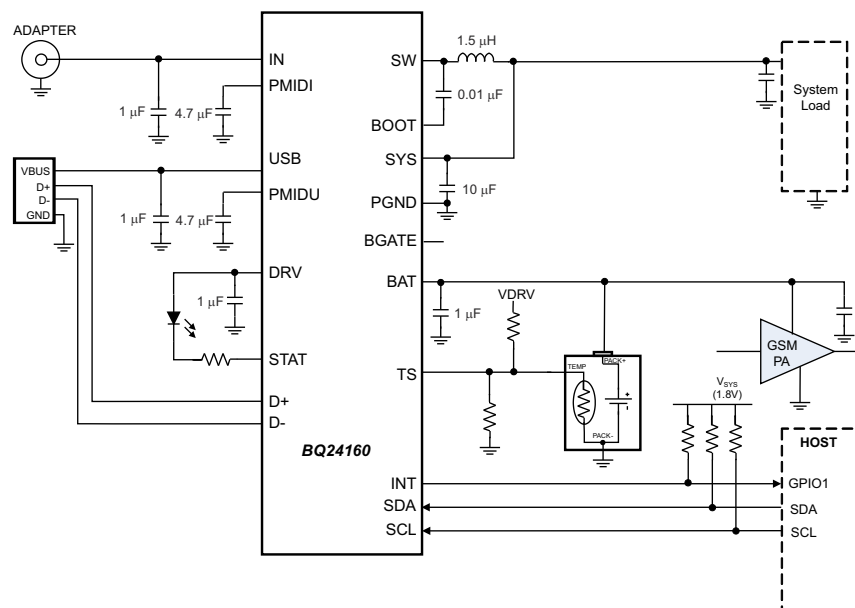
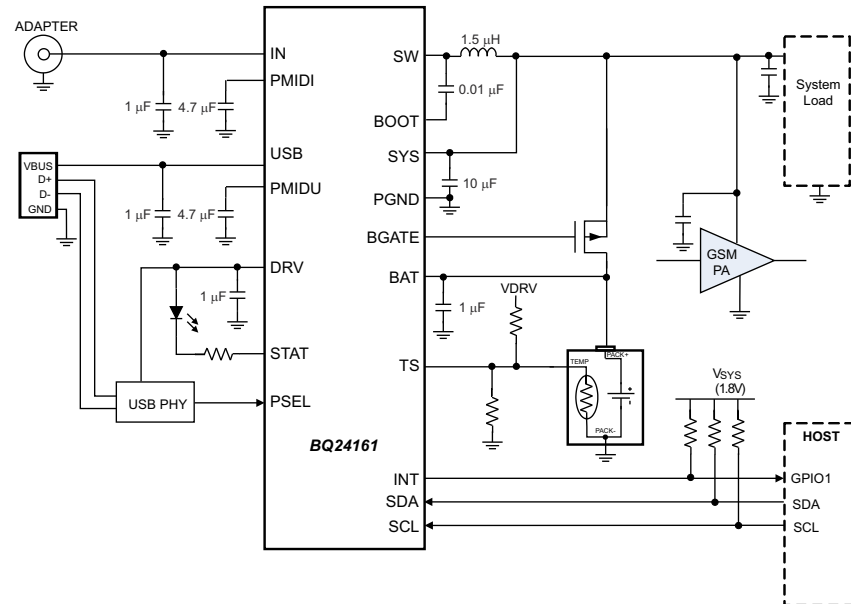

Figure 9-1. BQ24160, Shown with no External Discharge FET, PA Connected to Battery
Figure 9-2. BQ24161, Shown with External Discharge FET, PA Connected to System for GSM Call Support with a Deeply Discharged or No Battery
A typical application circuit using the BQ24160 with a smartphone's GSM power amplifier (PA) powered directly from the battery is shown in Figure 9-1. A typical application circuit using the BQ24161 with a smartphone's GSM PA powered from the SYS rail, to allow for calls even with a deeply discharged battery, is shown in Figure 9-2. Each circuit shows the minimum capacitance requirements for each pin and typical recommended inductance value of 1.5 μH . The TS resistor divider for configuring the TS function for the battery's specific thermistor can be computed from equations Equation 1 and Equation 2. The resistor on STAT is sized per the LED current requirements. All other configuration settings for VINDPM, input current limit, charge current and charge voltage are made in EEPROM registers using I²C commands. Options for sizing the inductor outside the 1.5 μH recommended value and additional SYS pin capacitance are explained in the next section.